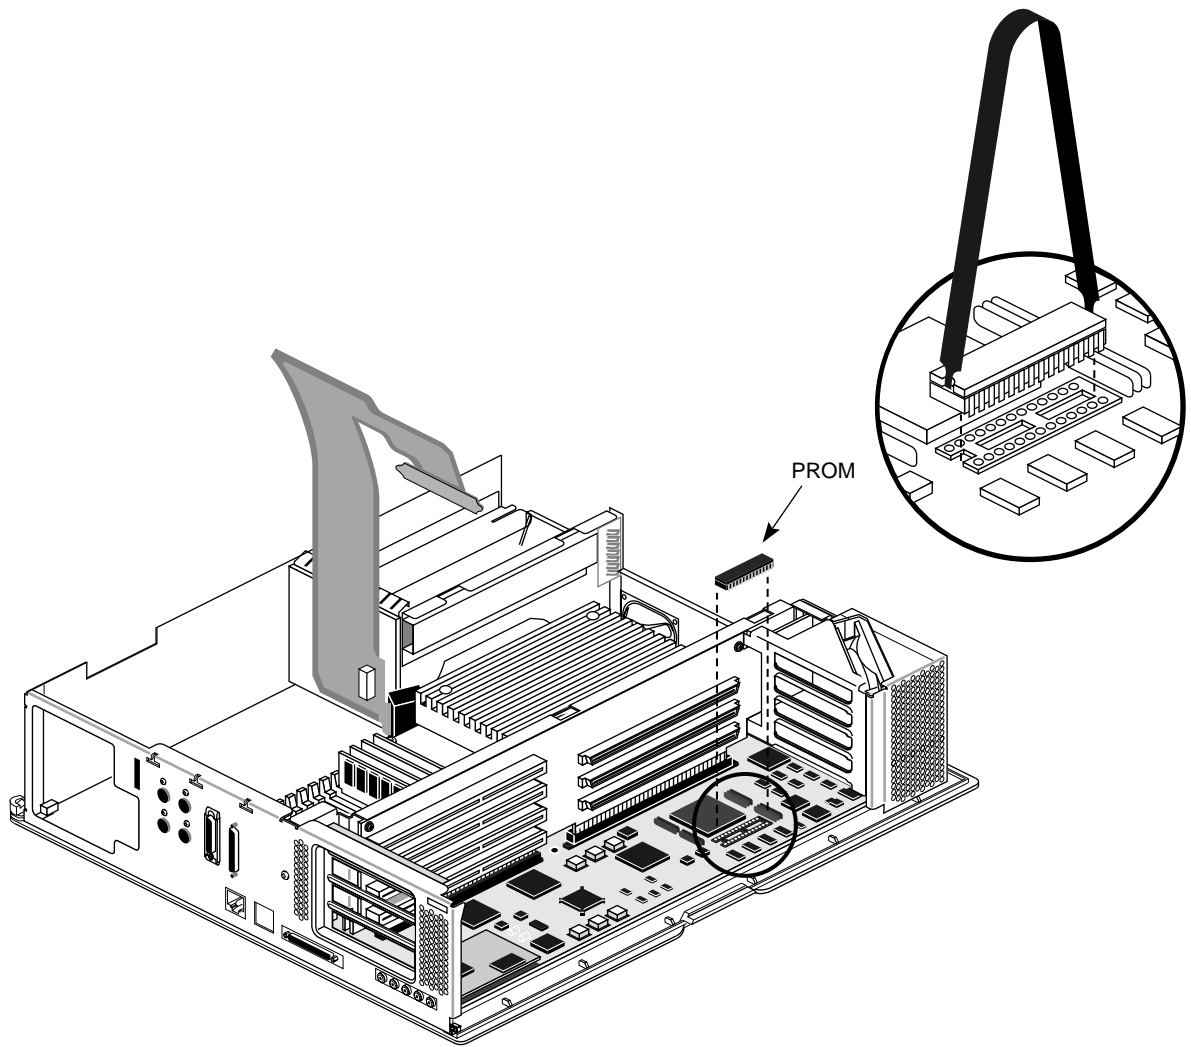

Figure 2-9 Locating and Extracting the Old PROM From the Motherboard
8. Locate the PROM on the system motherboard. See Figure 2-9.